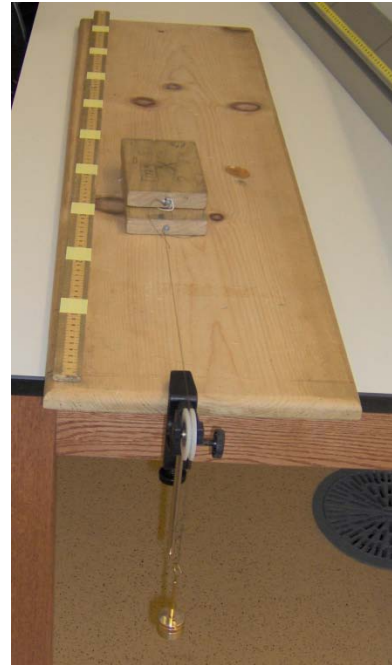

Figure 7
4. Place one block on top of the other and repeat step 2. See Figure 7.